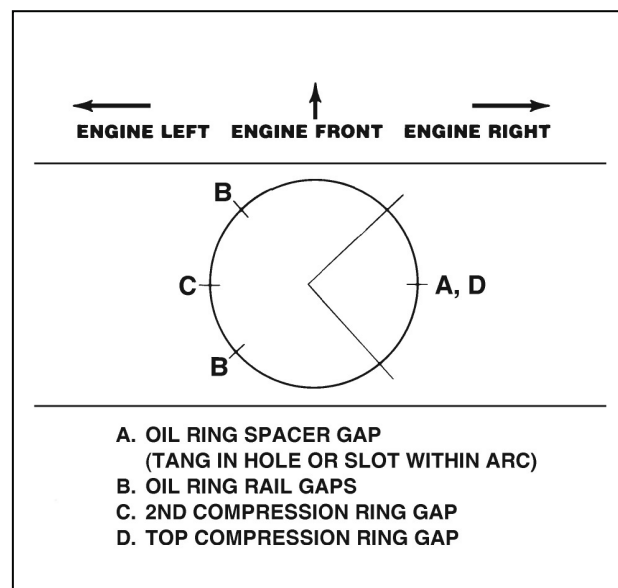

Figure 12-70 Piston Ring End Gap Location
- B. Locate the piston ring end gaps (figure 12-70). Lubricate the piston and rings with engine oil.